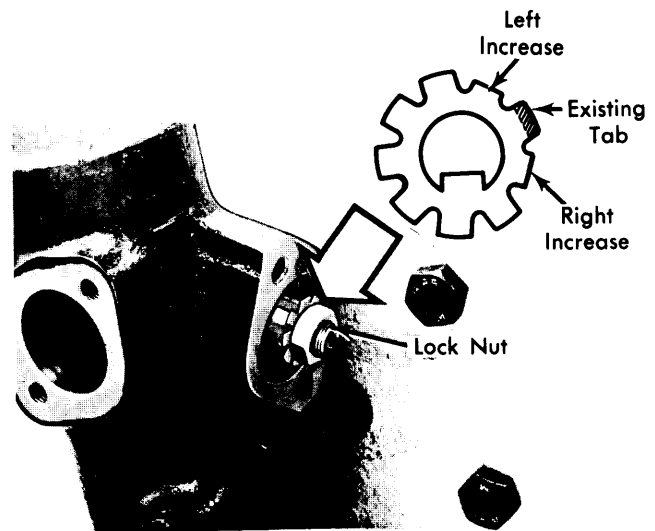

Fig. 2 Lock Washer Adjustment
**Adjusting** — 1) Turn off engine and remove lock nut and lock washer from pinion lower bearing (See Fig. 2) Lock washer will have one tab bent down to lock adjustment nut (bearing race).